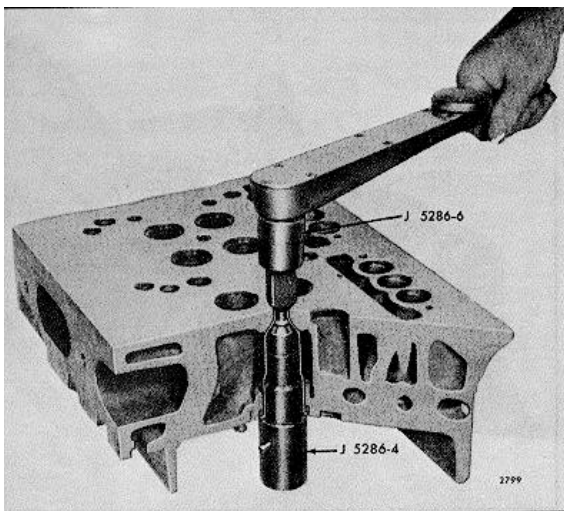

FIG. 3 Upsetting Injector Tube
- a. Turn the cylinder head bottom side up, remove the pilot- J 5286-5 and thread the upsetting die J 5286-6 into the tapped end of the installer J 5286-4 (Fig. 3).